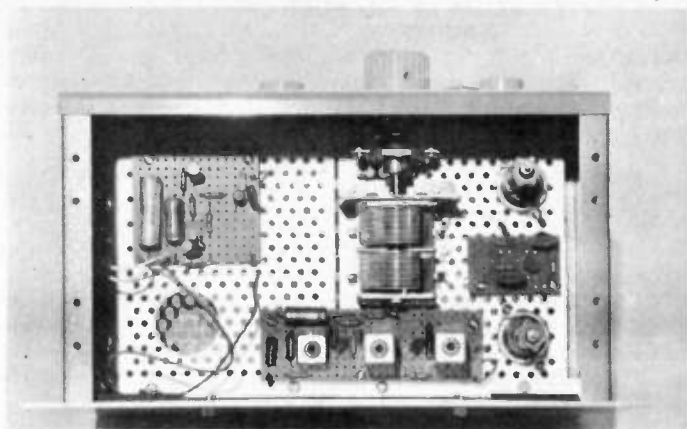

Fig. 5. The layout and wiring of the mixer board.
and mark for two 6BA bolts. These should not be too near the board edges, or the board may break. Insert two 13mm ($\frac{1}{2}$ in) 6BA bolts, locking them with a tag under one nut for the metal chassis connection (MC), Fig. 5.
Place the resistors and capacitors as in Fig. 5. Bend and cut the leads so that they can be soldered as shown. TR1 can then be inserted and connected. The iron should be at full heat, and it is removed immediately the joint is properly made. This will be in a second or so. Unnecessarily prolonged heating may damage the transistor.
Two further nuts are put on the 6BA bolts, to hold the board about 6mm from the metal chassis plate. It is then fixed with lock nuts tightened below. The tag MC, Fig. 5, and its securing bolt thus provide an earth or negative return to the chassis.